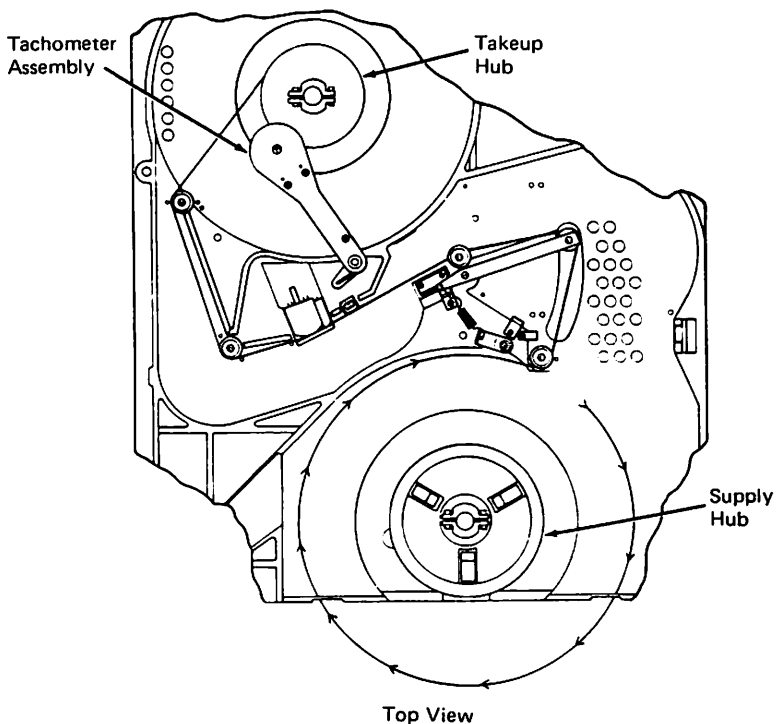

Figure 12 Tape path
3. Place the supply reel on the supply hub (refer to Figure 12). Be sure that the supply reel is seated evenly on the supply hub.
5. Thread the tape along the tape path shown in Figure 12.